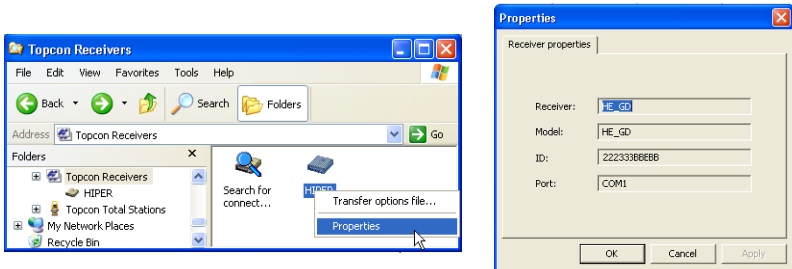

Figure 5-3. Receiver Properties
6. To view information about the receiver (Figure 5-3), right-click the desired receiver and select the *Properties* option.